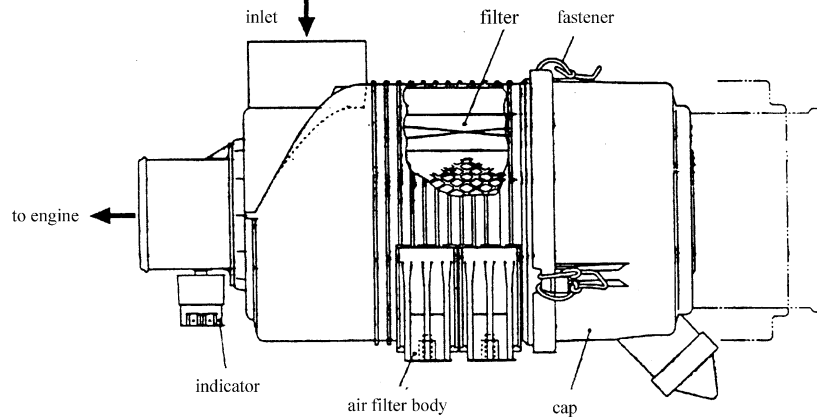

Fig.1.6 Air condition
1.6.1 Cleaning of the air condition (Fig.1.6)